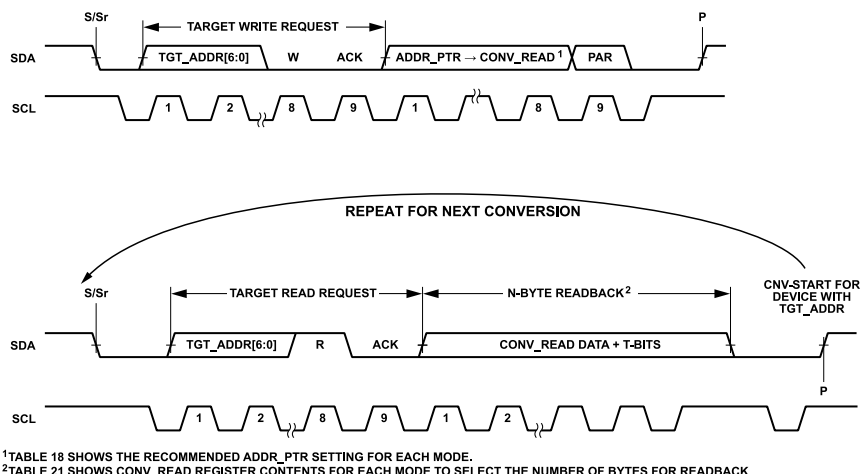

Figure 63. Triggering ADC Conversions Using CONV_READ
To trigger ADC conversions using the CONV_READ register, update the ADDR_PTR to point to any of the register addresses of the CONV_READ register (from 0x50 to 0x53). Then, perform a dummy I3C read from the AD4060 and issue a repeated start (Sr) followed by a stop (P) at the end of the data phase. The SDA rising edge of the stop (P) triggers an ADC convert-start as shown in Figure 63. In sample mode, the convert-start trigger results in a single conversion. In burst averaging mode, the convert-start trigger results in a burst of multiple conversions which are used to generate a single averaged result (see the Modes of Operation section).